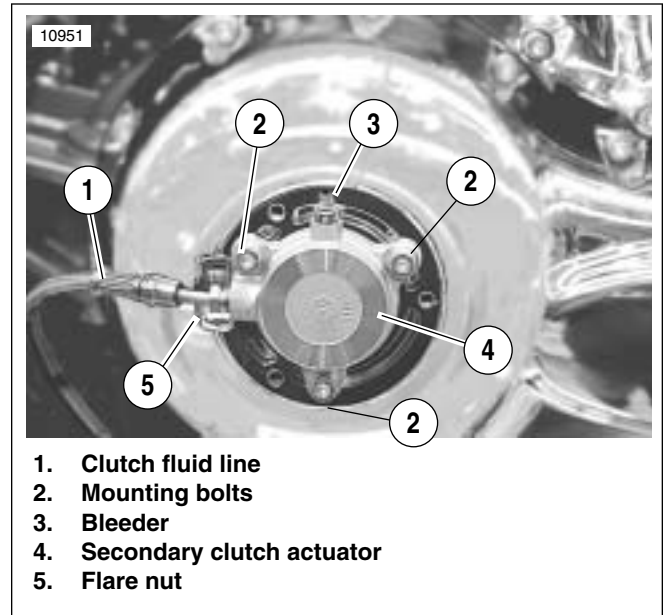

Figure 2-41. Secondary Clutch Actuator Installed
2. See Figure 2-41. Remove mounting bolts (2) holding secondary clutch actuator (4) to clutch cover.
4. See Figure 2-41. If condition indicates replacement of secondary actuator:
- a. Place a suitable container under secondary clutch actuator (4). Loosen flare nut (5) and allow clutch fluid to drain from clutch line (1).